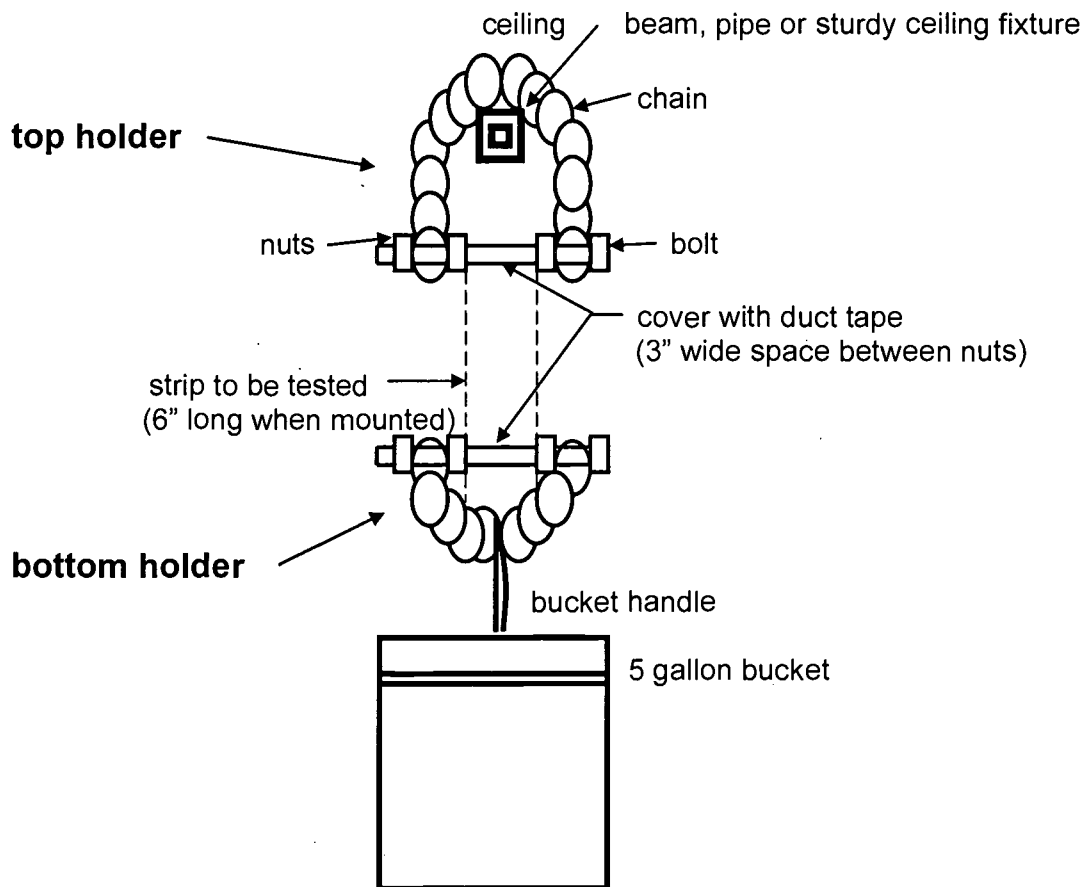

Figure 1: Assembly of Tensile Testing Station
- 1) To make the top holder, loop the chain around something sturdy on the ceiling and cut it so the two ends will be hanging at a comfortable level off the floor (see Figure 1).
- 2) The bottom holder is made the same way, except you only need an 8" length of chain which you will put through the handle of the bucket (see Figure 1). One trick to help reduce the bucket sliding is to ensure an odd number of links in the bottom chain.